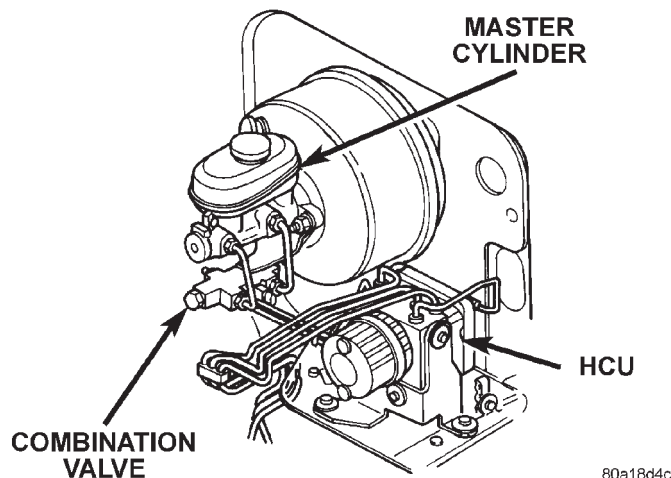

Fig. 6 HCU Brake Lines
- (3) Remove all the brake lines from the HCU (Fig. 6).